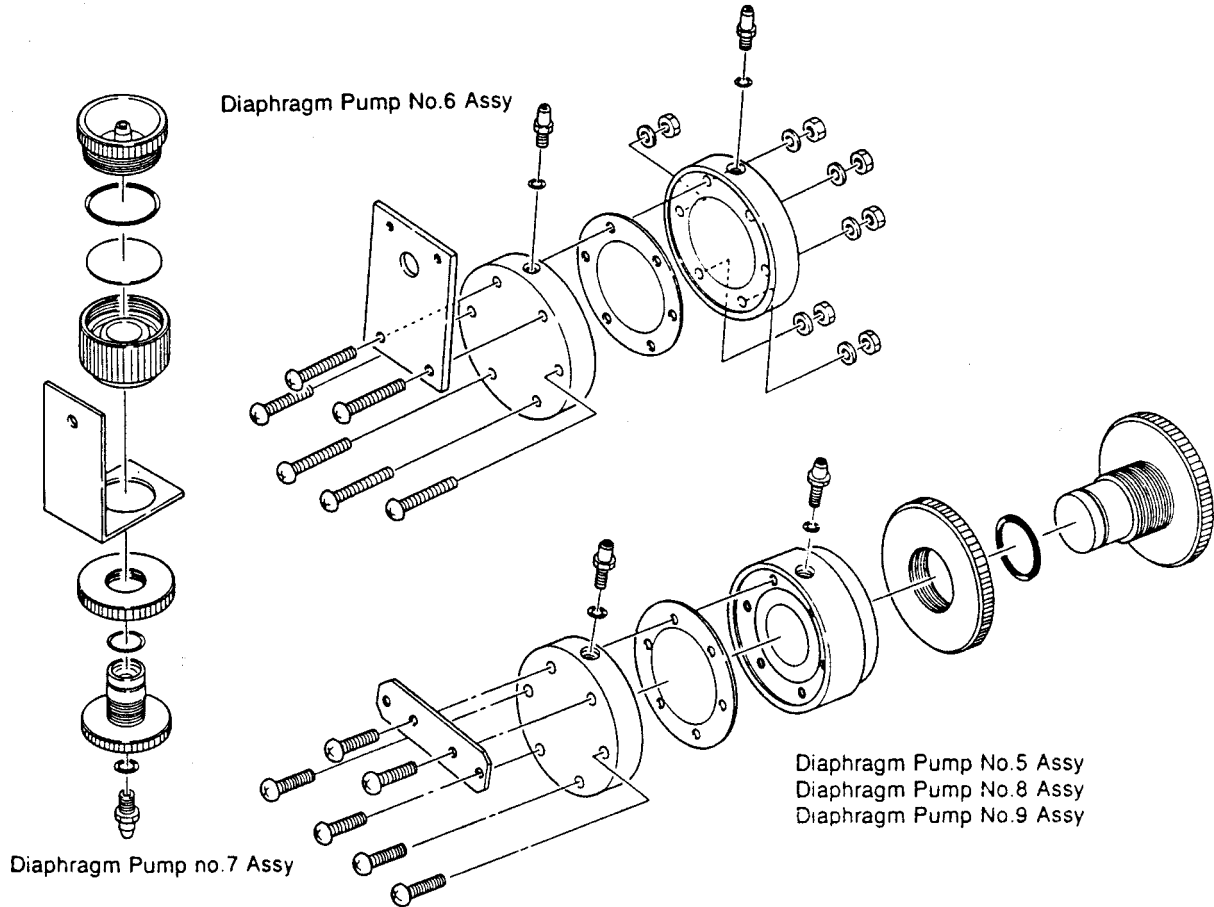

Figure 6-3-14 Dis-assembly of Diaphragm Pumps
- A. Disassemble the diaphragm pump as shown in Figure 6-3-14